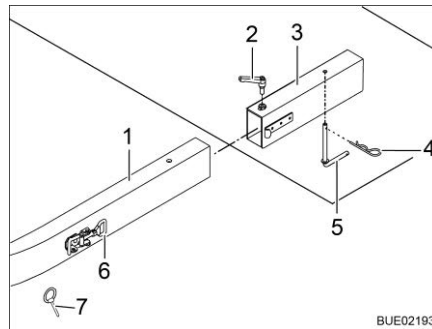

Fig. 6 Attachment to vehicle
- Push both side members (Fig. 6,1) of the load rack into the attaching elements (Fig. 6,3) on the vehicle.
- From below, plug the plug lever (Fig. 6,5) through the holes in side member and attaching element, and secure with cotter pin (Fig. 6,4).
- Close clamp fastener (Fig. 6,6) and secure with safety splint (Fig. 6,7).
- Tighten the clamping lever (Fig. 6,2).